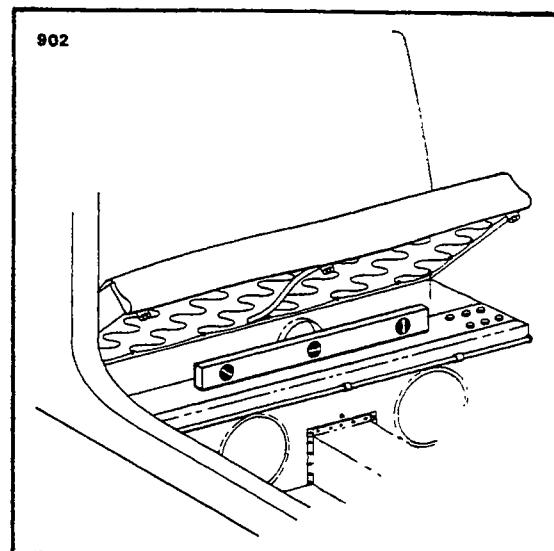

Figure 2-35. Leveling Laterally
- To laterally level the airplane, place a level across the spar box assembly located at the forward baggage area of the PA-28-140 or under the rear seat of the PA-28-150, -160, -180; PA-28-235; PA-28R. (Refer to Figure 2-35.) Raise or lower one wing tip by deflating the appropriate tire on the high side of the airplane or adjust either jack until the bubble of the level is centered.